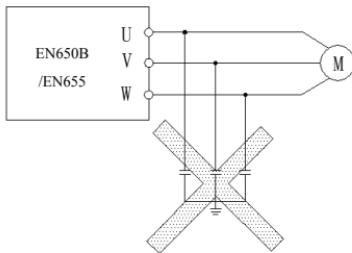

Fig.1-2 Capacitor at output forbidden
(12) Forbid inverter output side to assemble capacitor to improve power factor or anti-thunder dependent resistor etc, otherwise it may cause inverter fault trip or component damage show as Fig.1-2.